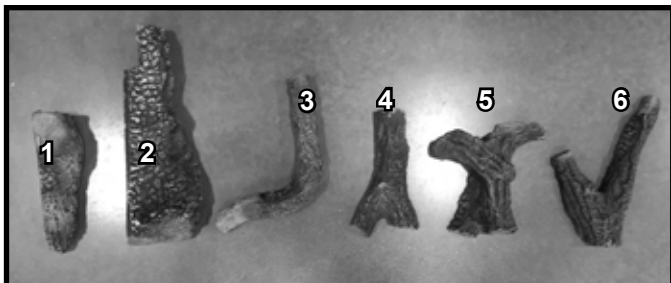

Figure 2 Logs Identification
2. Identify the logs before beginning installation. See Figure 2.